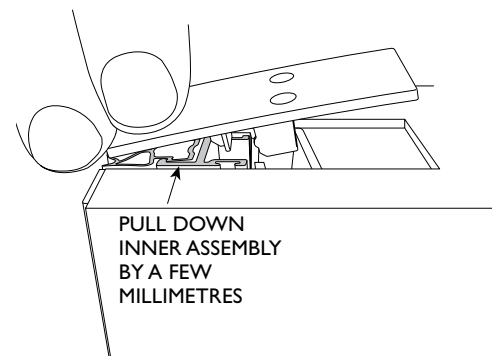

FIG.6
- STEP 9** For soft timber jambs, position striker button where adjustment nut meets door jamb. (FIG.6)